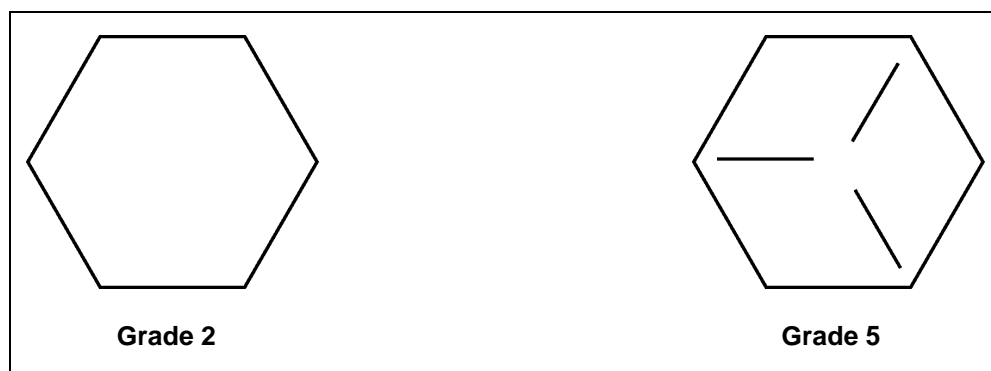

Figure 5W
19. After the drying floor has been installed, attach both halves of the perforated cover plate to the sump using nine (9) 1/4" x 1/2" hex flange head screws. Secure to the drying floor with twenty (20) 1/4" x 3/4" self-drilling screws. Make sure the angle ring on the perforated cover is sticking up. See center sump and gearbox assembly on Page 80, Ref #8 and Ref #9 on Page 81.
20. Bolt one floor auger to the gearbox hub using 5/16" x 1-1/2" grade 5 hex bolts and lock nuts. For grade 5 identification, See Figure 5W.